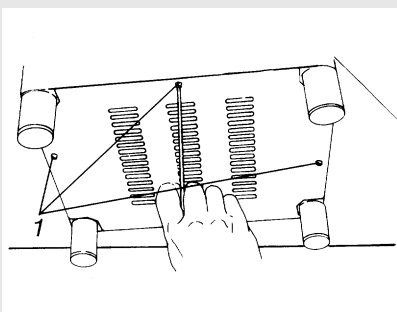

Fig.11
- Loosen the 4 screws 1, Fig. 11.